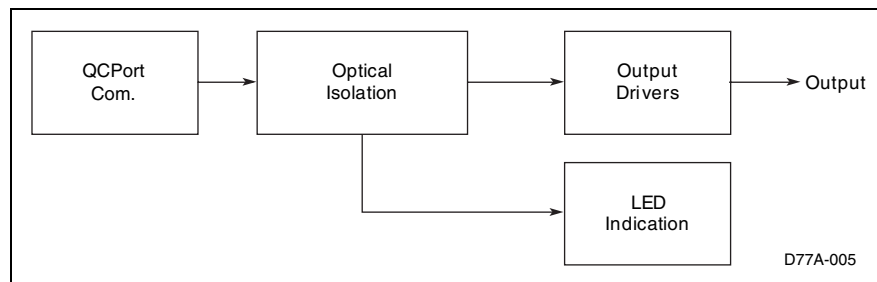

**Figure 17: Discrete Input Module Operation**
**Figure 17** illustrates the basic signal processing operation. When a signal is present at the input point, the module responds with the following sequence: